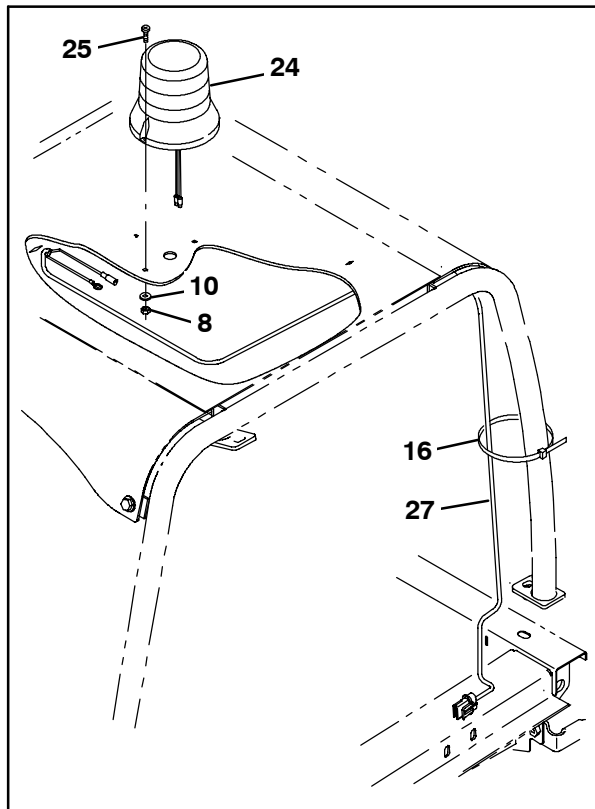
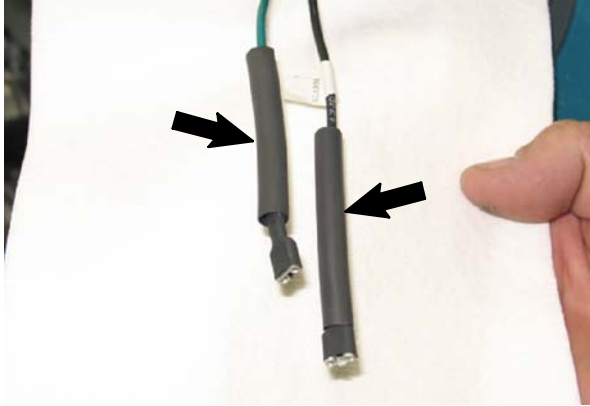

FIG. 3
FIG. 16
- Machines with overhead guard:** Use two pan screws (25), two washers (10), and two hex nuts (8) to install the light (24) onto the overhead guard. Refer to Fig. 3.
- Machines with overhead guard:** Connect the overhead light harness (27) to the light (24). Refer to Fig. 3.
- Machines with overhead guard:** Route the overhead light harness (27) down the rear leg of the overhead guard and into the engine compartment. Refer to Fig. 3 and Fig. 16.
- Machines with overhead guard:** Use cable ties (16) to secure the overhead light harness (27) to the rear leg of the overhead guard. Refer to Fig. 3.
- If necessary, remove the propel pedal from the machine. Set all mounting hardware aside. Refer to Fig. 3.
18. Route the switch (19) cable down through the rubber gasket in the propel pedal access panel. Refer to Fig. 3.
27. Route the backup harness (6), through the cable clamp (35) and to the area where the backup alarm / flashing / strobe light assembly is located.
- Slide a piece of heat shrink (32) onto each backup alarm (13) wire. Refer to Fig. 16.
- Position the 2" pieces of heat shrink (32) over the backup alarm (13) / backup harness (6) connections and heat the heat shrink over the connections. Refer to Fig. 16.